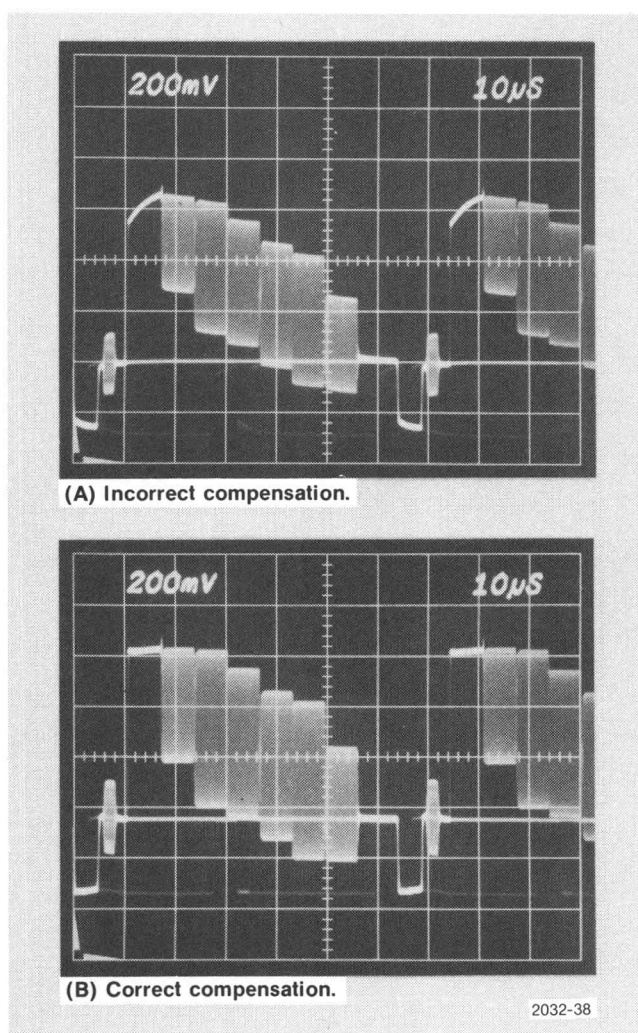

Fig. 5-27. Input compensation.
b. ADJUST—C1034 (A Input Comp) for a flat top on the white bar and flat sync tip. See Fig. 5-27.
d. ADJUST—C1084 (B Input Comp) for a flat top on the white bar and flat sync tip. See Fig. 5-27.